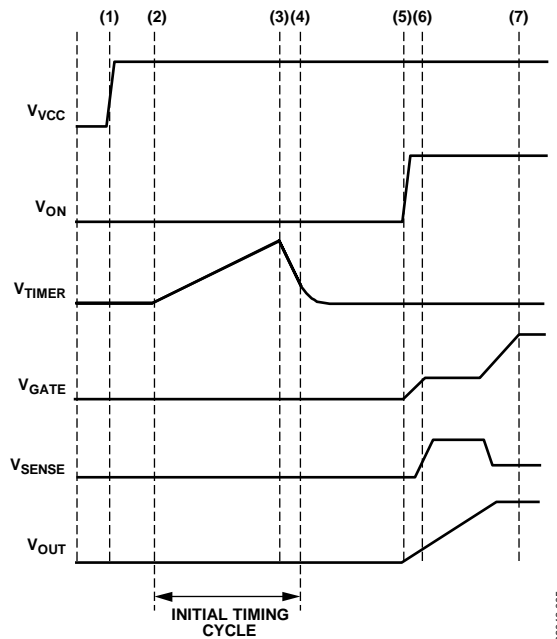

Figure 31. Startup (ON Asserts After Power Is Applied)
At Time Point (6),  $V_{\text{GATE}}$  and  $V_{\text{OUT}}$  have reached their full potential, and the load current has settled to its nominal level. Figure 31 illustrates the situation where the ON pin is asserted after  $V_{CC}$  is applied.